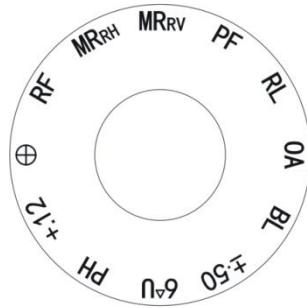
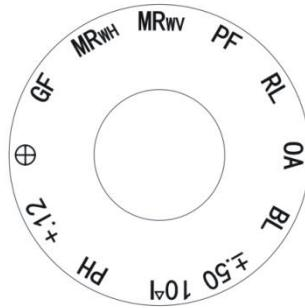

Fig.15
Fig.16
Turn auxiliary lens knob ⑯, the required symbol is to be set at 12 o'clock position. Then Corresponding referenced lens will appear in the examination aperture ⑰ (Fig.15 and Fig.16).